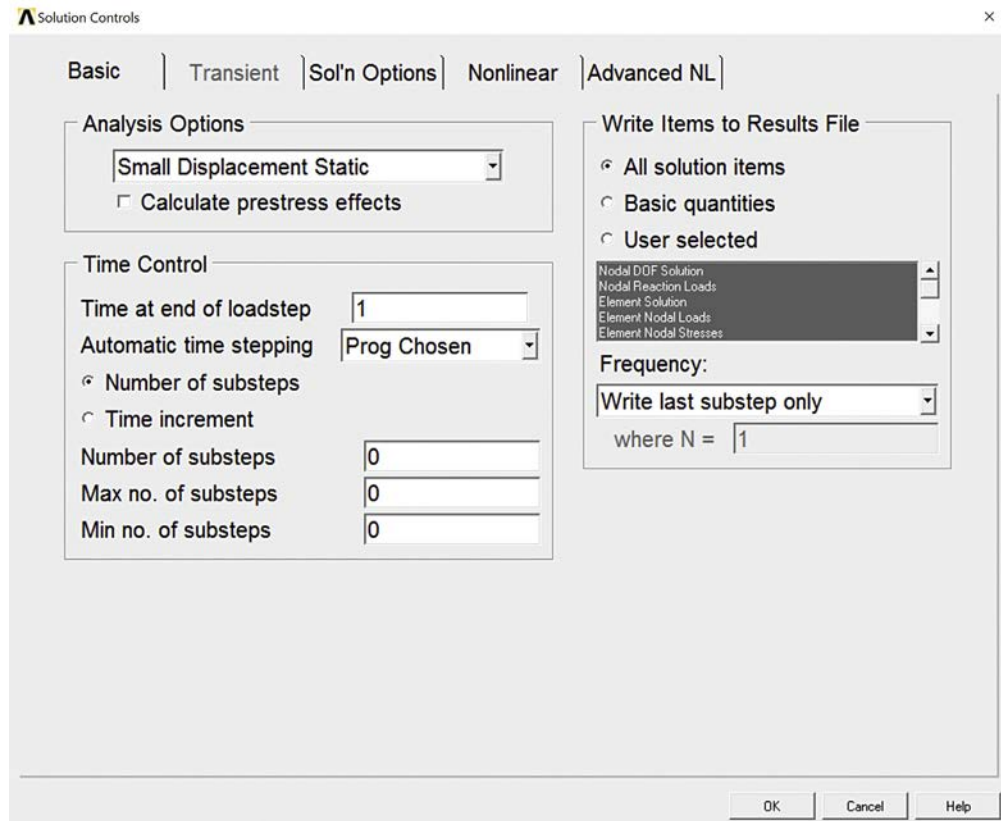

Figure 5-1-7 Solution Controls Menu.
- Enter 1 for "Time at end of loadstep" (Figure 5-1-7)